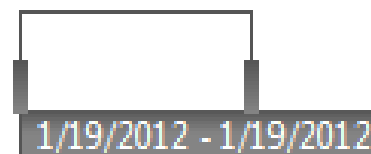
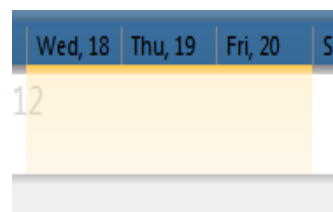

Figure 19 – Time Bar Selection Window
Figure 20 - Selecting Multiple Days in the Time Bar
Click the 'Read' button at the top of the screen. A list of all connected DataSnaps and their configured sensors is displayed as seen in figure 19. By default, each DataSnap and each sensor is selected. This is denoted by a check mark next to the name. Each time the 'Read' button is clicked, all selected (ie: checked) sensors will be read and the data displayed. To select or deselect all sensors on a DataSnap, click the checkmark next to the DataSnap's name.
- The time bar allows for quick and easy filtering of data by date. The selectable areas in the time bar expand and contract based on the screen size but can be adjusted manually as well. Within the time bar is a range selection window that defines the date range that is displayed in the main graph area. This is shown in **Figure 19**.
- To select a single day, click on the date in the blue region at the top of the time bar **Thu, 12** **Fri, 13**. As an example, **Figure 19** shows that January 19, 2012 has been selected. To select multiple full days, left click on a date and while holding down the left mouse button, drag to another date and release the button. The selection range will be highlighted in yellow as the mouse is dragged. The selection window will now change to the range that was selected. As an example, **Figure 20** shows how the time bar would look while clicking 'Wed, 18' and dragging to 'Fri, 20'. Once the mouse is released, the range selection window will move and the main graph will display data for the three selected days.